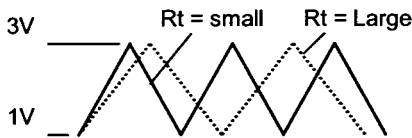

Fig.2 Oscillator output
The built-in capacitor voltage oscillates between about 3V and 1V, with almost the same charging and discharging gradients (Figure 2). You can set the desired oscillation frequency by changing the gradients using the resistor connected to the RT pin. (Large R_t = low frequency, small R_t = high frequency) The oscillation frequency is automatically lowered when output duty cycle is small ($FB \leq$ about 1.18V) in light load mode. For more information, see item (2), "Reducing oscillation frequency circuit in light-load mode"